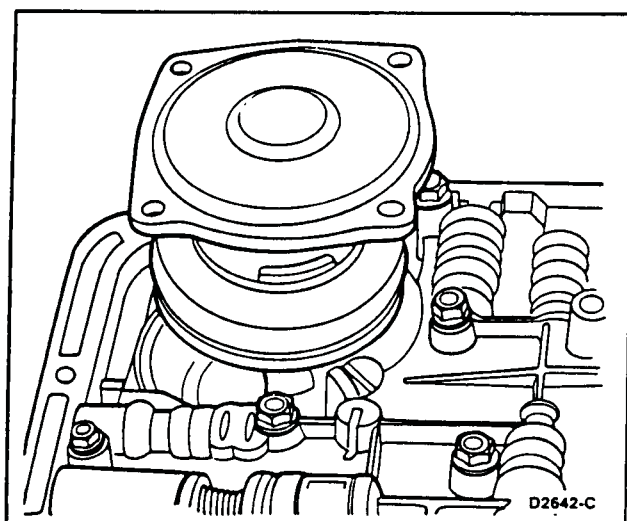

FIG. 10 Servo, Reverse—Removal
4. Remove the retaining screws, the reverse servo cover, the gasket and the piston (Fig. 10).